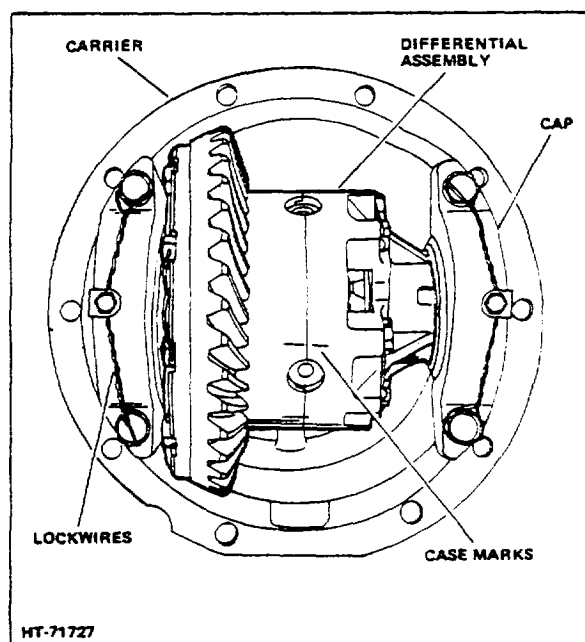

Figure 5-1. Differential Carrier Assembly
- a. Mark differential case halves (Fig 5-1), bearing caps, and carrier housing to aid in proper location during reassembly; then remove capscrews, washers, and adjusting nut locks; remove bolts and retaining bearing caps from carrier housing.
- b. Remove capscrews holding case halves together. Note aligning marks on case halves (Fig 5-1).